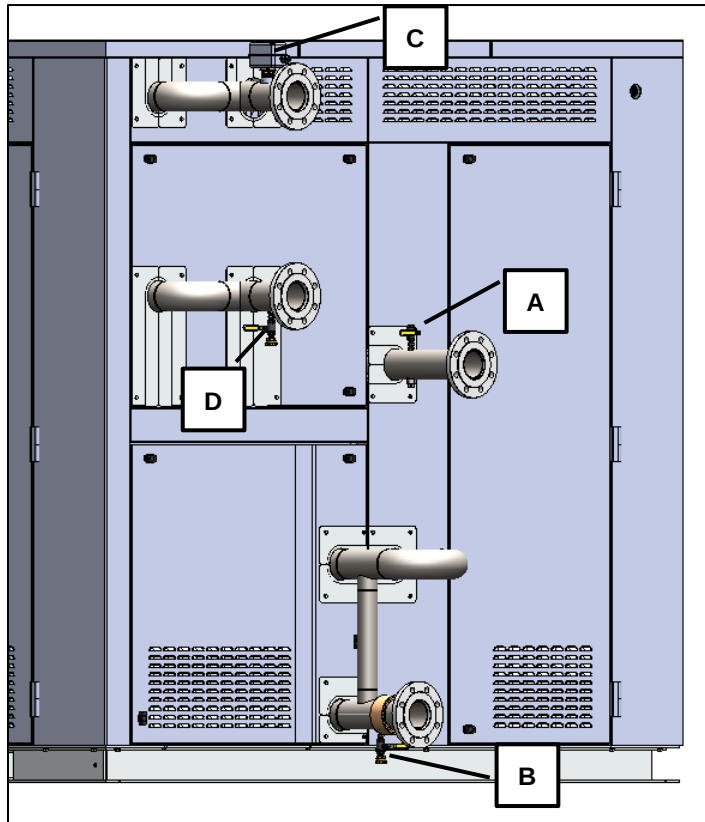

FIGURE 1.11-1: WATER-SIDE VENTS AND DRAINS
- 1) Locate the heat exchanger vent (A) and drain (B) on the hot water loop, Figure 1.11-1.
- 4) Repeat this process for the cold water loop. Cold water vent is behind sensor (C) (water-cooled machines only).